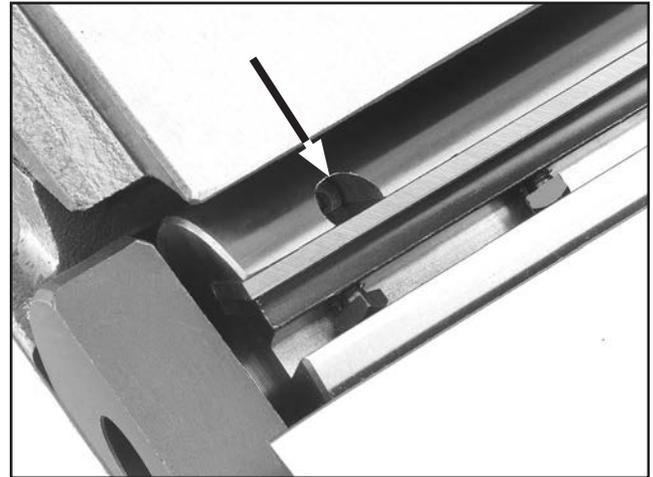

Figure 68. Jack screw access hole.
7. Using a 3mm hex wrench, access the jack screws through the holes in the cutterhead (**Figure 68**) and rotate the jack screws to raise or lower the knife. When the knife is set correctly, it will barely touch the middle pad of the knife setting jig. Snug the gib bolts tight enough to just hold the knife in place. Repeat **Steps 5-7** with the rest of the knives.